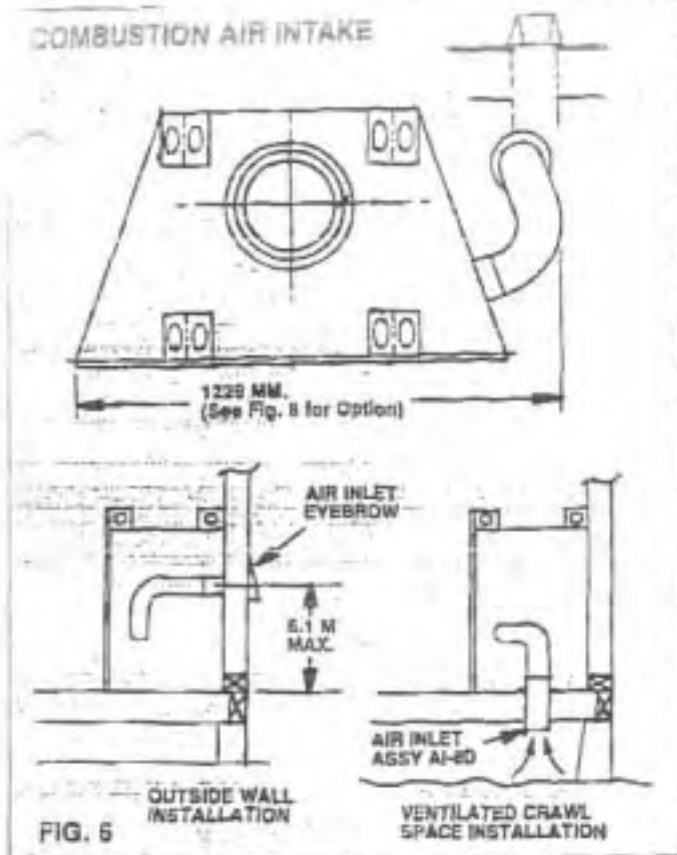
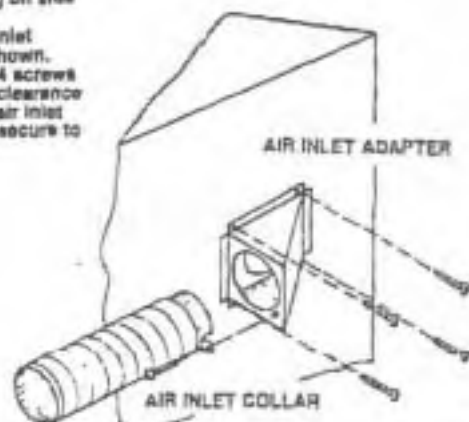

FIG. 6
FIG. 8
- If your fireplace is to be installed on a wood floor, refer to Fig. 6 for combustion air intake details. If the fireplace is to be installed on a slab floor it should be vented thru outside wall.
BY INSTALLING THE OPTIONAL AIR INTAKE AIA-36, (FIG. 8) IT IS POSSIBLE TO REDUCE THE LENGTH ACROSS THE FIREPLACE FROM 1228 MM TO 1108 MM (SEE FIG. 6)